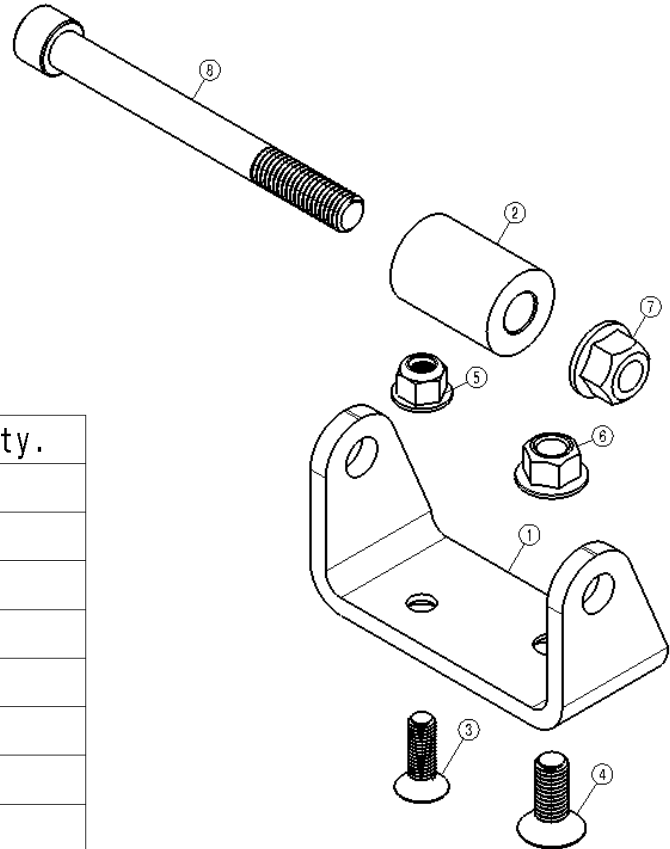

Figure 9 – Lower mount offset bracket
- O. A mount kit is included to allow the lower shock mount to be offset away from the frame. This kit is depicted in Figure 9.
- Q.** Install the clevis from the mount kit in figure 9 using the M10 screw and nut. The position of the clevis should allow the offset be towards the wheel. Torque down the fasteners to 31 lb•ft (42 N•m)
- V. Install the clevis from the mount kit in figure 9 using the M8 screw and nut. The position of the clevis should allow the offset be towards the wheel. Torque down fastener to 19 lb•ft (25 N•m).